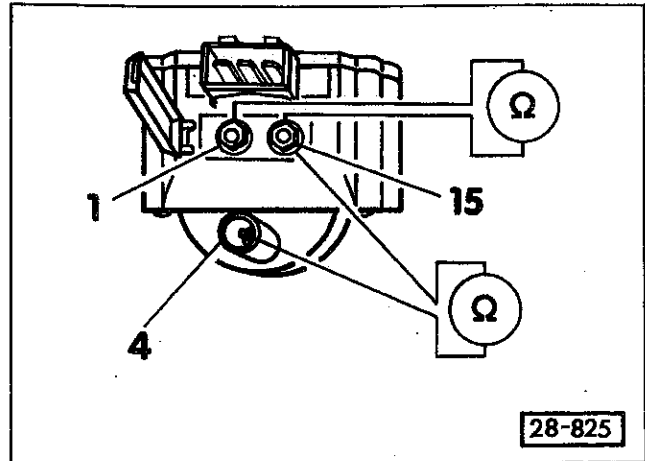

Fig. 6. Ignition coil primary and secondary resistance being measured (shown schematically).
10. If no faults are found up to this point, measure the coil primary and secondary circuit resistance as shown in Fig. 6. If the coil resistance is not as specified, it should be replaced.